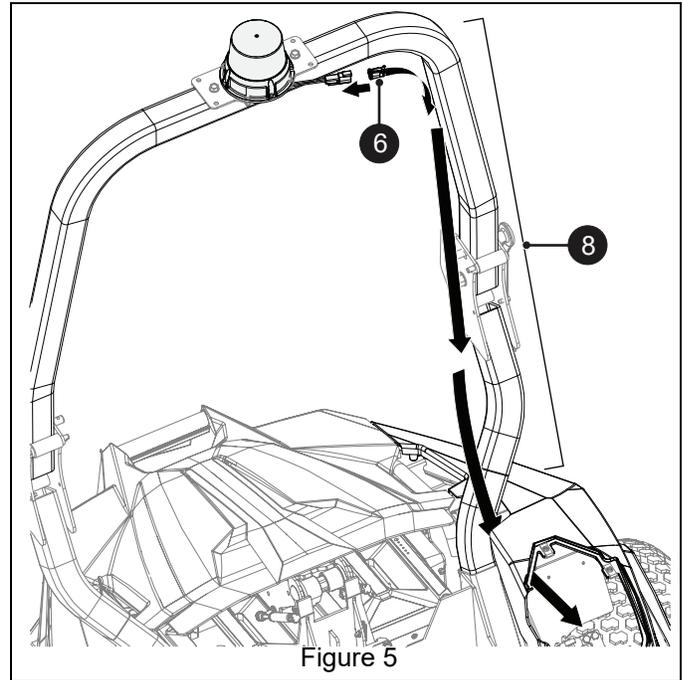

Figure 5
8. Connect wire beacon harness connector (item 6) to strobe light connector.
9. Route harness down left inside of ROPS and into left fender. Secure harness to ROPS with three tie wraps (item 8). Leave sufficient slack at hinge to allow ROPS to be rotated without stretching or pinching harness. See Figure 5.